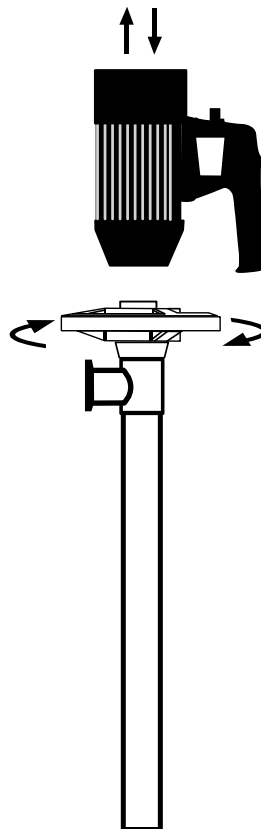

Figure 3
3. Couple the motor to the pump tube by using the Hand Wheel. (See figure 3, page 3).
2. For a more thorough cleaning remove the motor from the pump tube by loosening the hand wheel (see Figure 3).